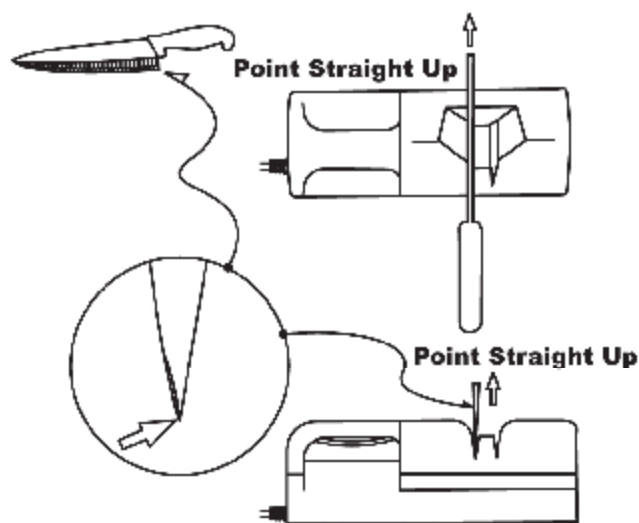

Fig. 5
- 5) Hold the knife firmly and start with the knife in the forward position with the blade in the left opening and parallel to the flat surface (see fig 5). Draw the knife smoothly back towards you with moderate down pressure (**if you hear the motor is slowing down, you are using too much down pressure**). Some knives have a curved end, so as the knife curves, rotate your arm upwards so that the contact surface is always parallel to the flat surface.